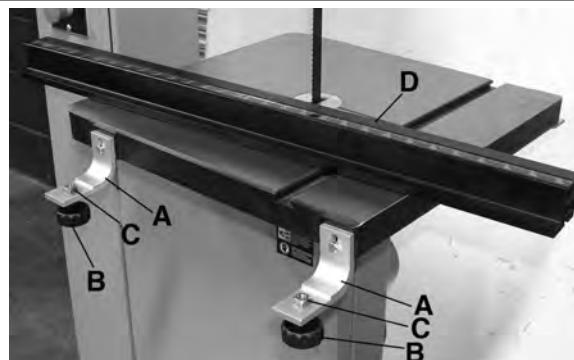
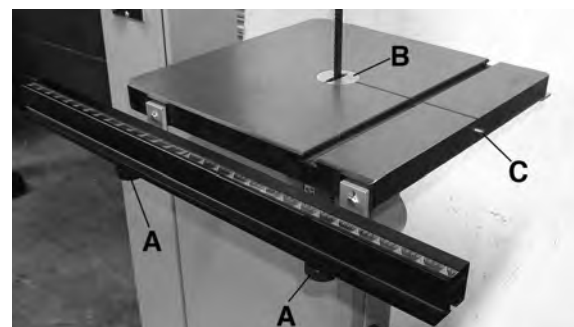

FIGURE 8
FIGURE 9
2. Remove table insert (B) Fig.9 and table pin (C) Fig.9 from the table. Slide the blade through the table and place the table trunnions onto the trunnion bracket by lowering both its long bolts into the mounting holes of the trunnion bracket, secure table to trunnion bracket using 2 lock knobs (E). Re-install the table insert and table pin.
1. Mount the large front rail mounting brackets (A) Fig.8 to the front of the table using hex. bolts.
2. Mount lock knobs (B) and flat square nuts (C) to the mounting brackets as shown.
3. Slide the square slot at the bottom of the front rail (D) onto both flat square nuts (C), tighten lock knobs (A) Fig.9 to secure the front rail in the desired position.
The rip fence should be no more than 1mm above the table top. To adjust the height of the rip fence, loosen the front rail and rear rail mounting brackets (Fig. 8 and 10), adjust the height of the mounting brackets until the rip fence is positioned 1mm above the table top, retighten front rail and rear rail mounting brackets.